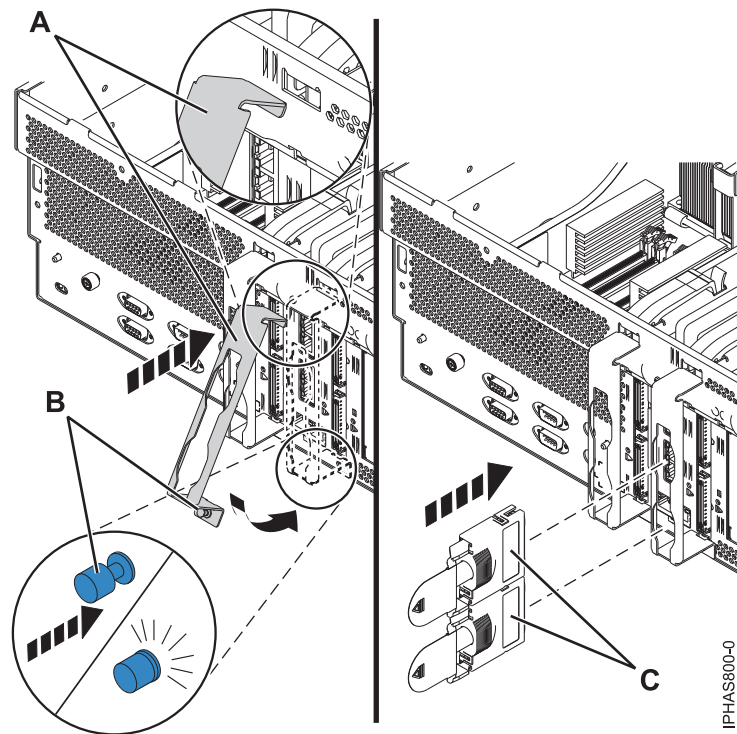

Figure 4. Cable retention bracket installation
15. Tilt the cable retention bracket (A), shown in Figure 4, to hook the tab at the top of the bracket into the slot in the assembly.
20. Reconnect all power and signal cables to their respective connectors. Ensure that the GX adapter cables **(C)**, shown in Figure 4 on page 4, are routed through the appropriate cable retention brackets to prevent excessive cable movement.